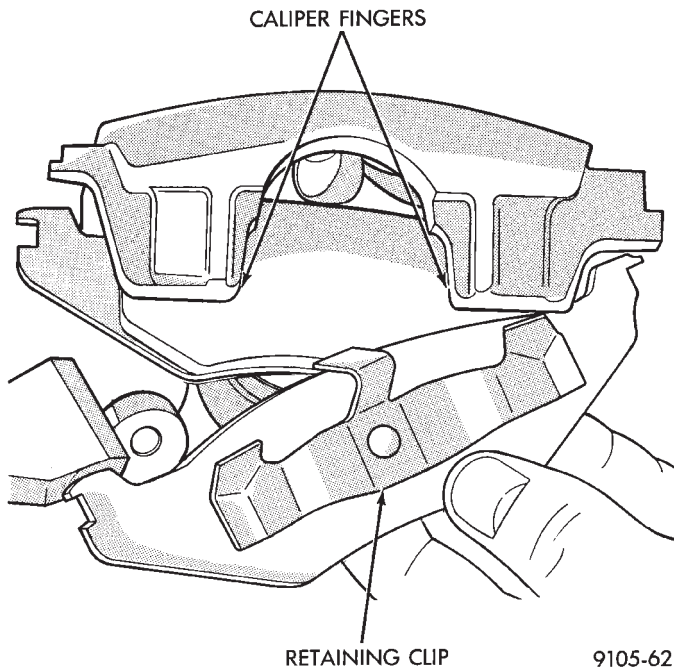

Fig. 4 Removing Outboard Shoe
(5) Remove outboard shoe. By prying the shoe retaining clip over the raised area on the caliper. Then slide the shoe down and off the caliper (Fig. 4).